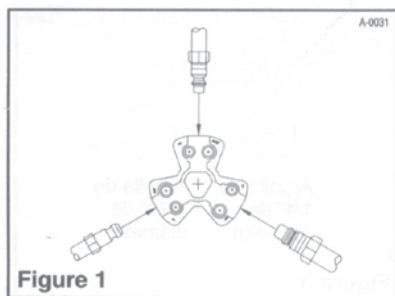

Figure 1
- 1 Insert male air fitting into appropriate Lockout entry (Fig. 1)